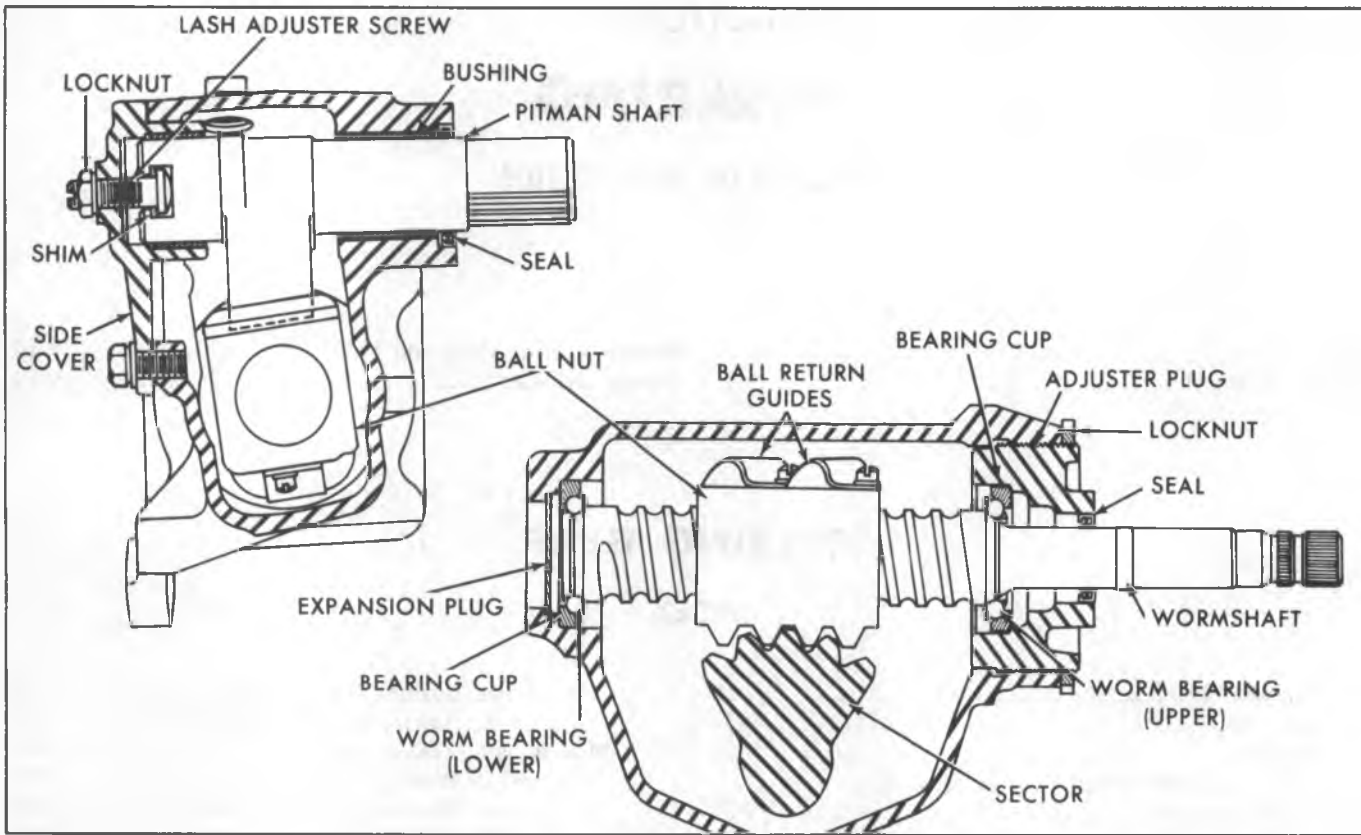

Fig. 1—Steering Gear—Typical of All Except Tilt Cab Models
### Disassembly (Figs. 1, 2, and 3)
2. Press the new bushings into the housing using Tool J-23440 and Handle J-8092. Note bushing location as shown in Figures 1 and 2.